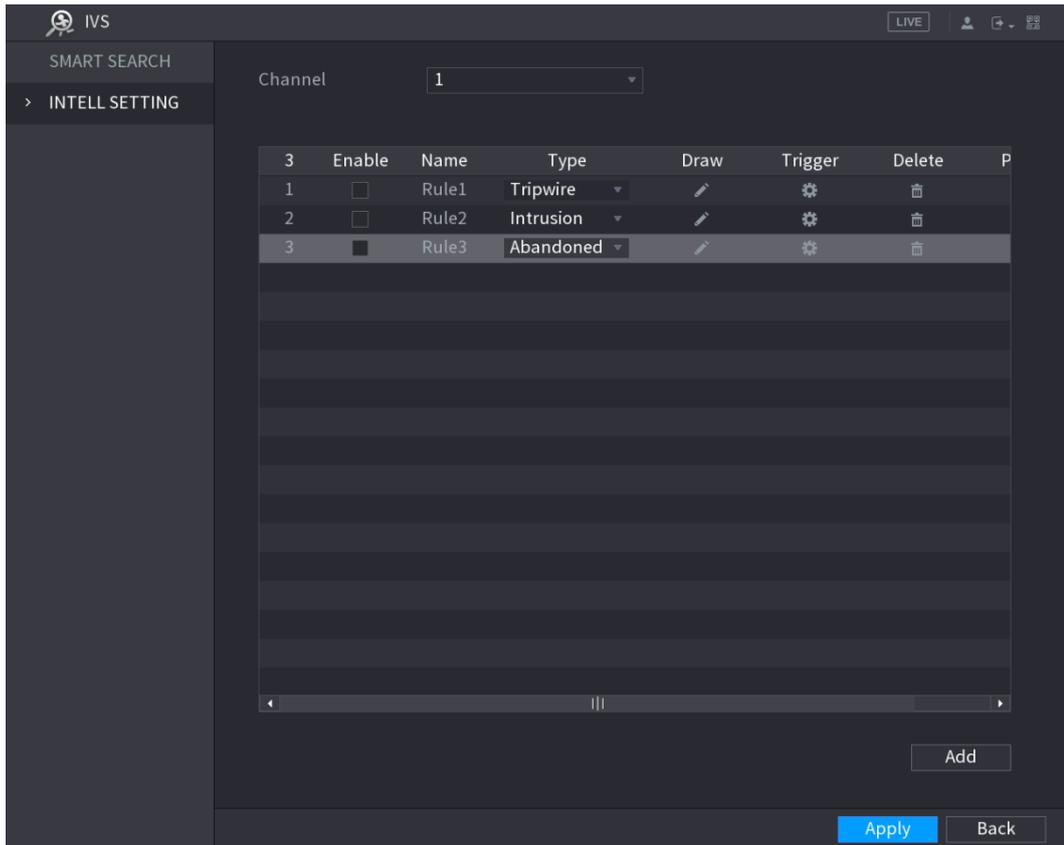

Figure 5-138
**Step 1** On the rule line that you added, in the **Type** list, select **Abandoned**. See Figure 5-138.